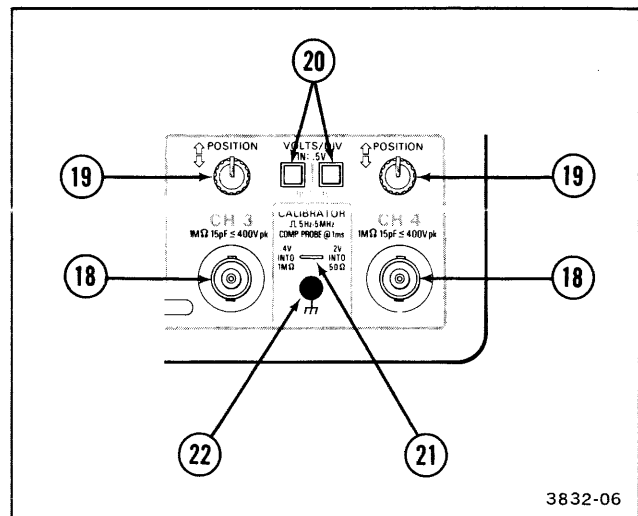

Figure 2-4. Channel 3 and Channel 4 controls and connectors and CALIBRATOR output.
Refer to Figure 2-4 for location of items 18 through 22.